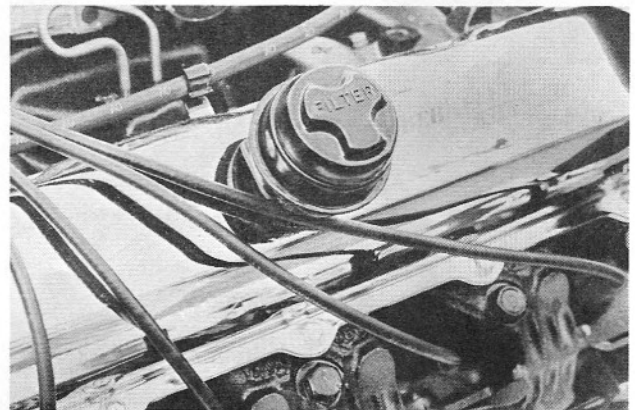

Figure 21
D. CRANKCASE VENTILATION FILTER The crankcase ventilation filter is located in the center of the right hand valve cover (Figure 21). It should